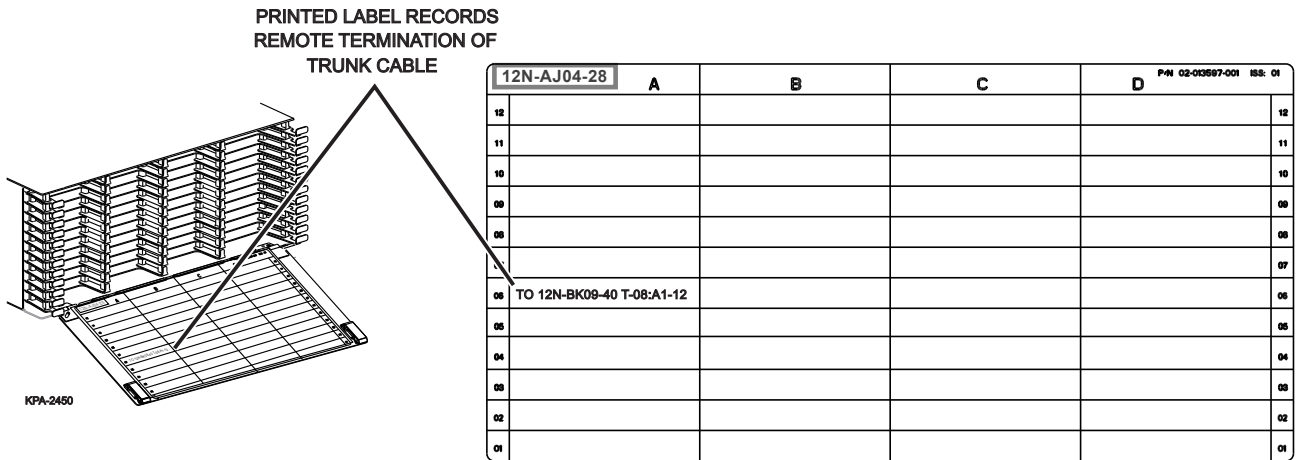

Figure 30 — Print Remote Termination Label
**Step 5: Documentation (Figure 30)**
**Step 2:** Press latch on LC connector and pull connector out (Figure 32). If jumper is equipped with MTP® connector, simply grasp connector body and pull connector out of the adapter. (**NOTE:** only LC connectors shown in Figure 30.)